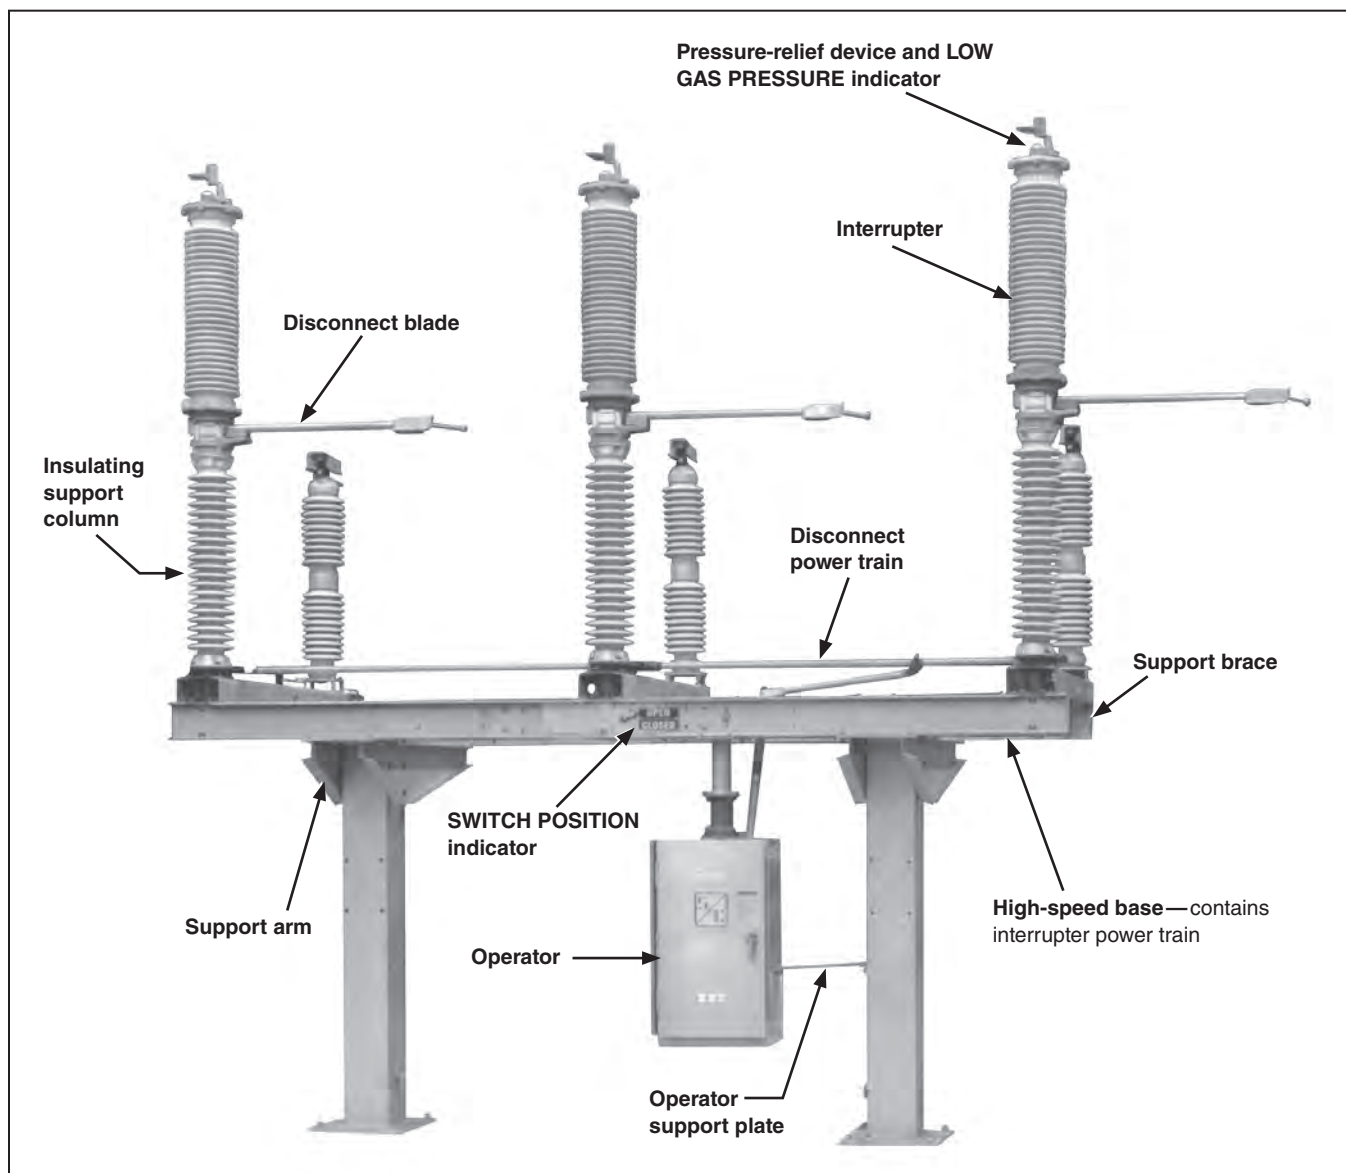
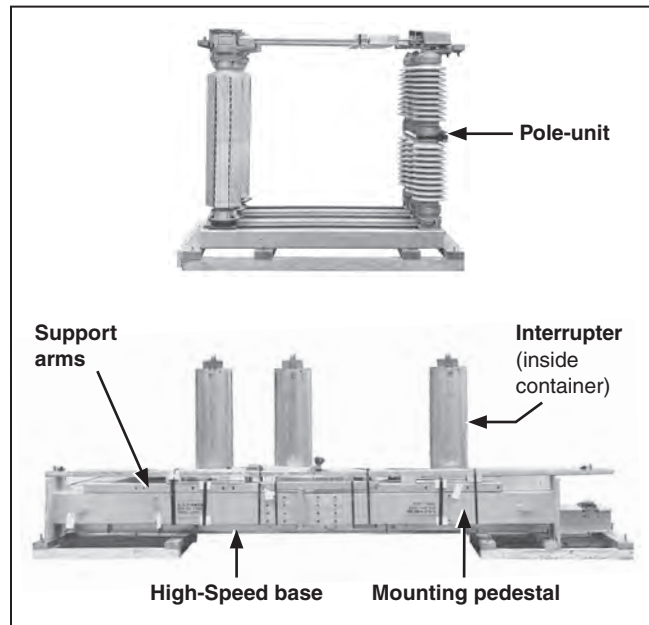

Figure 1. A Model 2020 Series 2000 Circuit-Switcher rating 138 kV.
Figure 2. A typical shipment of a Model 2020 Series 2000 Circuit-Switcher. The operator is shipped on a separate skid.
An S&C catalog drawing is located in a water-resistant envelope attached to the wrapper around one of the insulating support columns. Study this drawing carefully and check the bill of material to verify all parts are available. The Model 2020 Series 2000 Circuit-Switcher shipment should include the items shown in Figure 1 on page 9 and Figure 2 on page 10.
- STEP 1.** Use a steel strapping cutter to cut the steel straps binding the mounting pedestals and support arms to the high-speed base. Also cut the straps binding the container of operating mechanism components and hardware and the straps that bind the pole-units. See Figure 2.
- STEP 6.** Attach the support arms to the mounting pedestals as shown on the catalog drawing using $\frac{5}{8}$ -11 \times 1 $\frac{1}{4}$ -inch hex-head galvanized steel cap screws and flat washers furnished. Torque the cap screws to 75 ft-lbs (101.7 Nm). See Figure 1 on page 9.